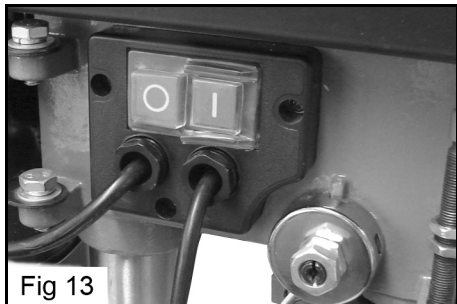

Fig 13
7. When completely satisfied that the setup is sound, lower the chuck guard into place, and switch the machine ON by pushing the 'I' button. To switch OFF, push the 'O' button, see Fig.13.